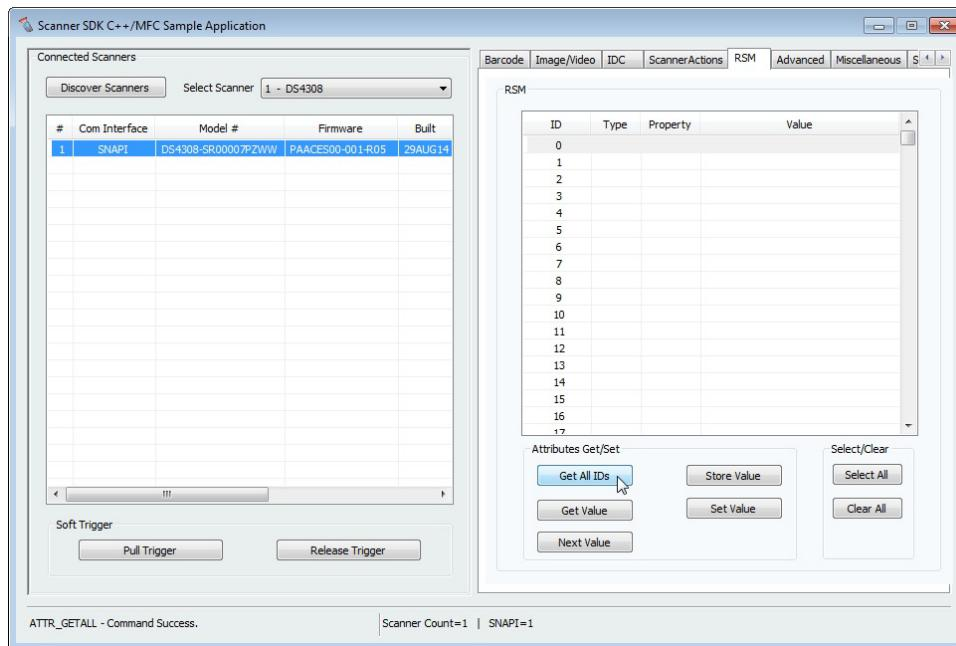

Figure 4-10 Get RSM IDs
4. The sample application receives the XML output below and displays the corresponding attribute IDs on the grid (see Figure 4-10 on page 4-19).